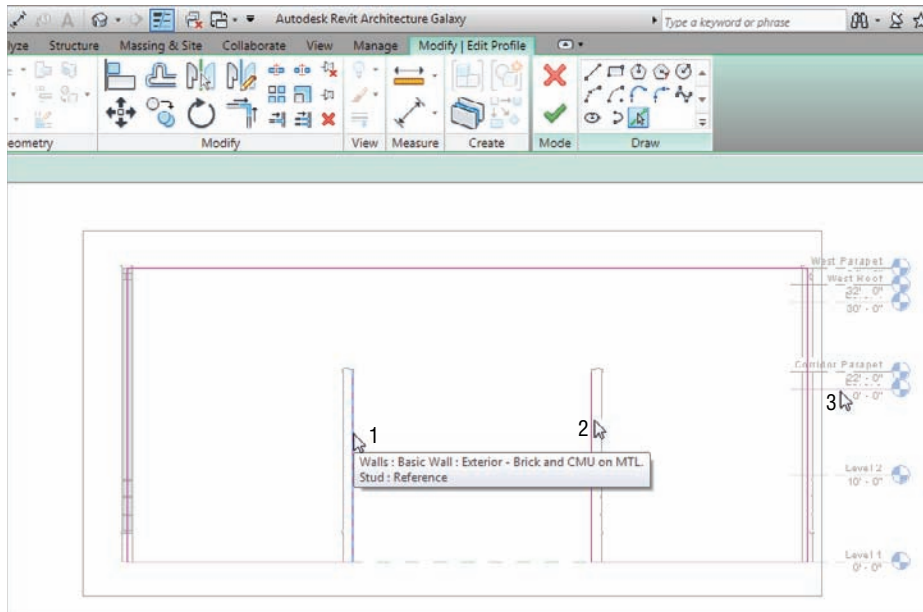

FIGURE 4.39 Tracing the walls to form a notch. This is done by selecting the Pick Lines icon and picking the walls.
1. On the Draw panel of the Modify | Walls > Edit Profile tab, click the Pick Lines icon, as shown in Figure 4.39.
2. Pick the inside face of the left wall (#1 in Figure 4.39).
3. Pick the Level 3 level (#3 in Figure 4.39).
4. Pick the inside face of the right wall (#2 in Figure 4.39).